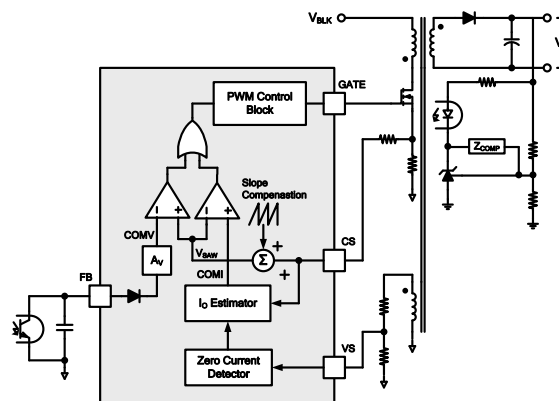

Figure 19. Simplified CV / CC PWM Control Circuit
Figure 19 shows a simplified CV / CC PWM control circuit of the FAN501A. The Constant Voltage (CV) regulation is implemented in the same manner as the conventional isolated power supply, where the output voltage is sensed using a voltage divider and compared with the internal reference of the shunt regulator to generate a compensation signal. The compensation signal is transferred to the primary side through an opto-coupler and scaled down by attenuator  $A_V$  to generate a COMV signal. This COMV signal is applied to the PWM comparator to determine the duty cycle.